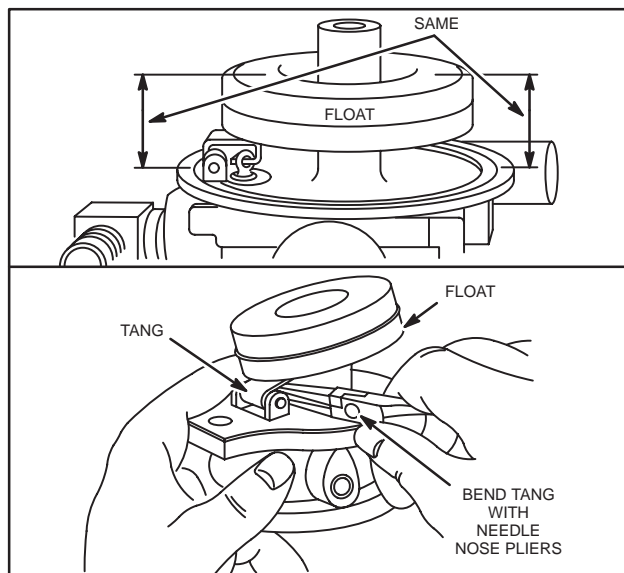

Fig. 265 – CHECKING FLOAT LEVEL
1. With body gasket in place on upper body and inlet needle and float installed, float should be parallel to body mounting surface, Fig. 265.
2. If not, bend tang on float until surfaces are parallel. DO NOT PRESS ON FLOAT, Fig. 265.